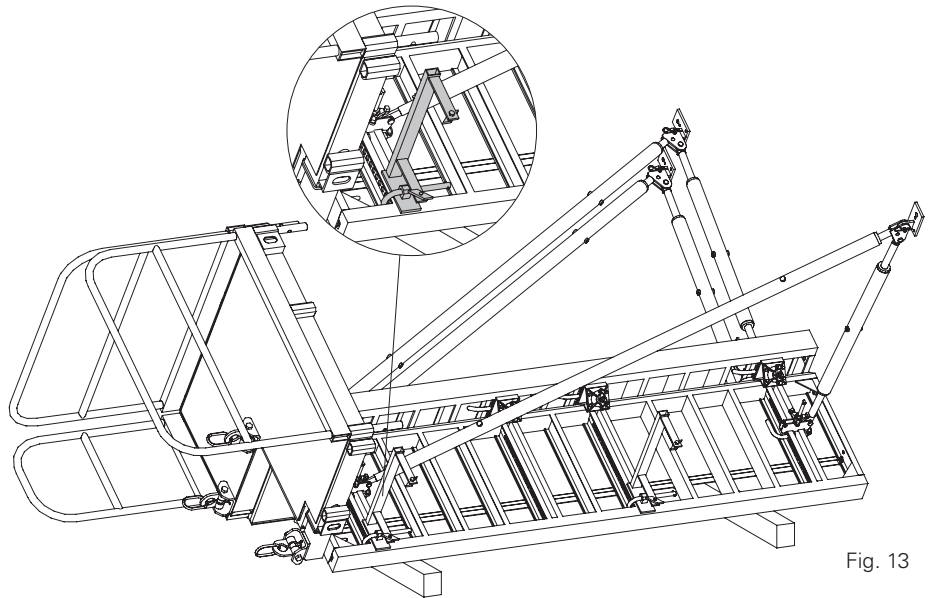

Fig. 13
1. Place ladder connection on frame and peg out in the perforated profile with bolts. Fig.13